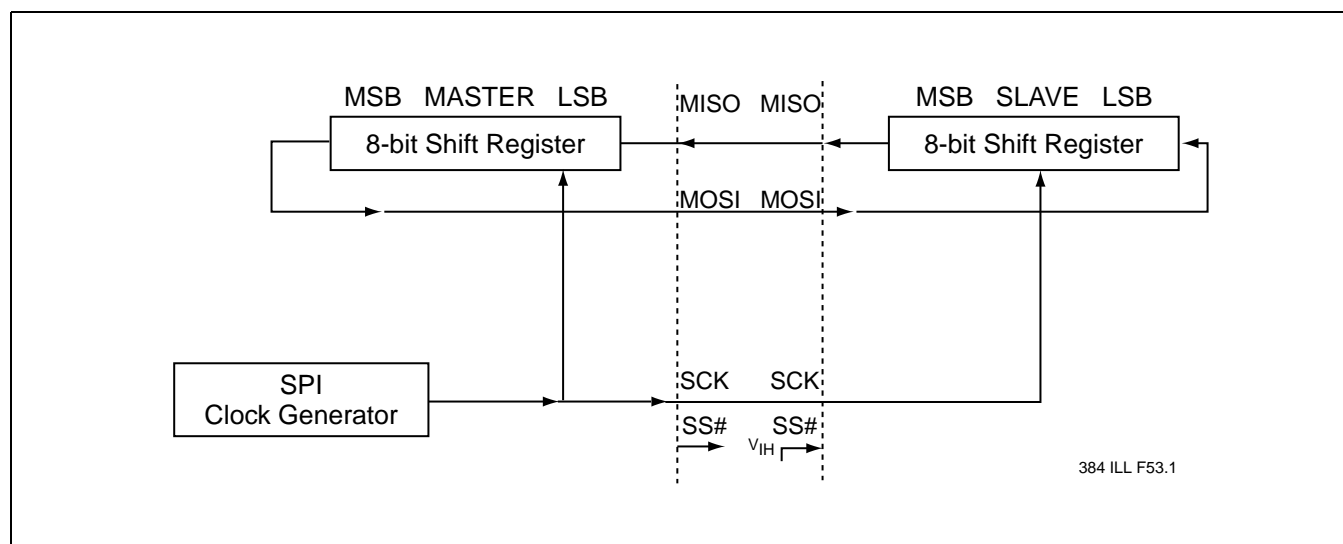

FIGURE 6-1: SPI MASTER-SLAVE INTERCONNECTION
Figure 6-1 shows the correspondence between master and slave SPI devices. The SCK pin is the clock output and input for the master and slave modes, respectively. The SPI clock generator will start following a write to the master devices SPI data register. The written data is then shifted out of the MOSI pin on the master device into the MOSI pin of the slave device. Following a complete transmission of one byte of data, the SPI clock generator is stopped and the SPIF flag is set. An SPI interrupt request will be generated if the SPI interrupt enable bit (SPIE) and the serial port interrupt enable bit (ES) are both set.